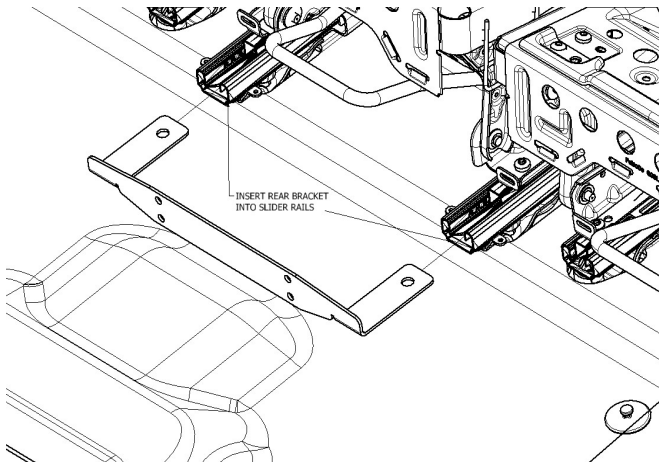

FIGURE 2B
- C. Slide tabs of 3GRK581804 into slider rails. (Fig. 2B).